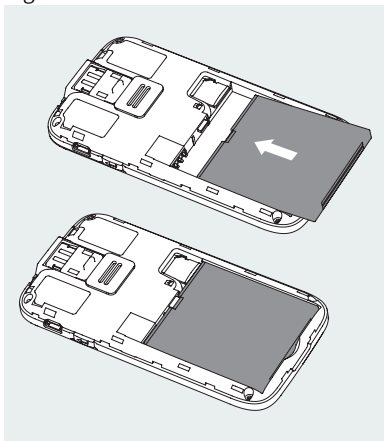

Figure 6
**3** Insert the Battery: Install the battery in the orientation shown in Figure 6.